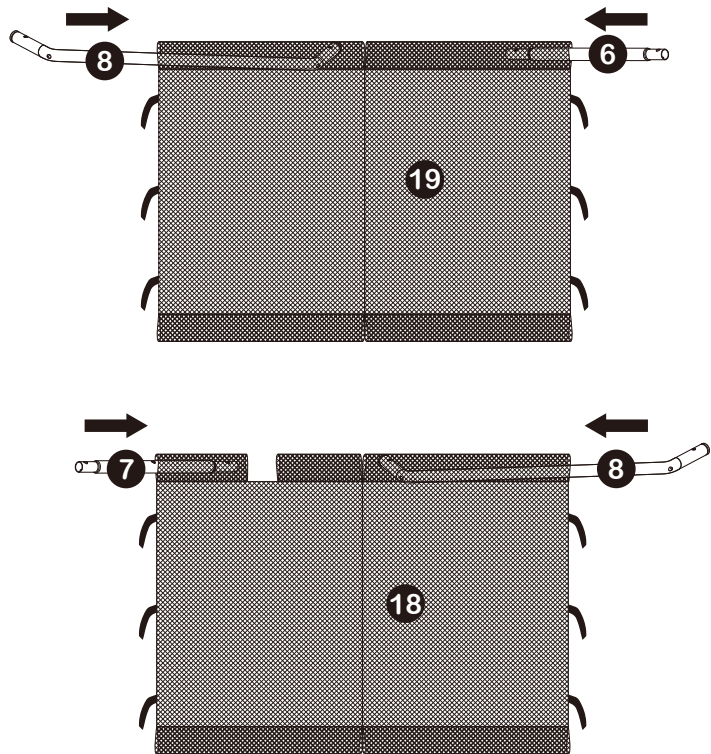

FIGURE 9
- Insert Straight Connection Tube (6) and Connection Tube (8) through the side sleeve of Net (19).
- Insert Straight Connection Tube with Hole (7) and Connection Tube (8) through the side sleeve of Net (18) as shown in Figure 9.